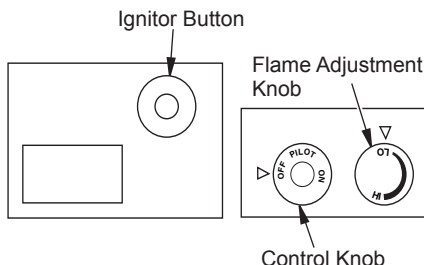

Figure 28 - Control Knob and Ignitor Button Location (Shown as Supplied, No Control Options)
5. Wait five (5) minutes to clear out any gas. Then smell for gas, including near the floor. If you smell gas, STOP! Follow "B" in the safety information, page 20. If you don't smell gas, go to the next step.
6. Press in and turn control knob counterclockwise ↺ to the PILOT position. Press in control knob for five (5) seconds (see Figure 28).